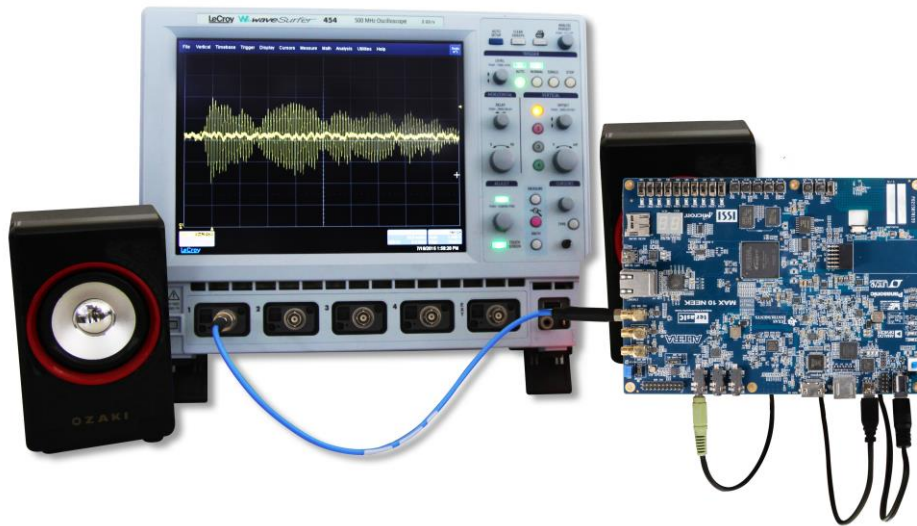
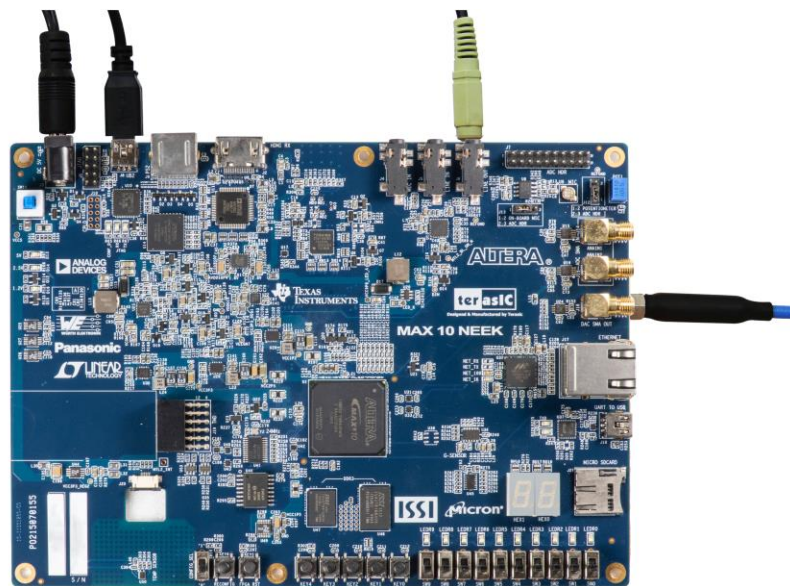

Figure 5-10 The Waveform of onboard MIC is Displayed on the Oscilloscope. Its Sound is Played out from the Speaker
Figure 5-11 LEDR0~7 Displays the Volume Level of onboard MIC
- The sound wave from the MIC can be observed on the LED and probed through DAC SMA OUT from the oscilloscope, or we can also connect external speaker to Line-out to hear the sound, as **Figure 5-10**. The volume of the sound from the MIC is displayed digitally on LEDR0~7, as **Figure 5-11**.